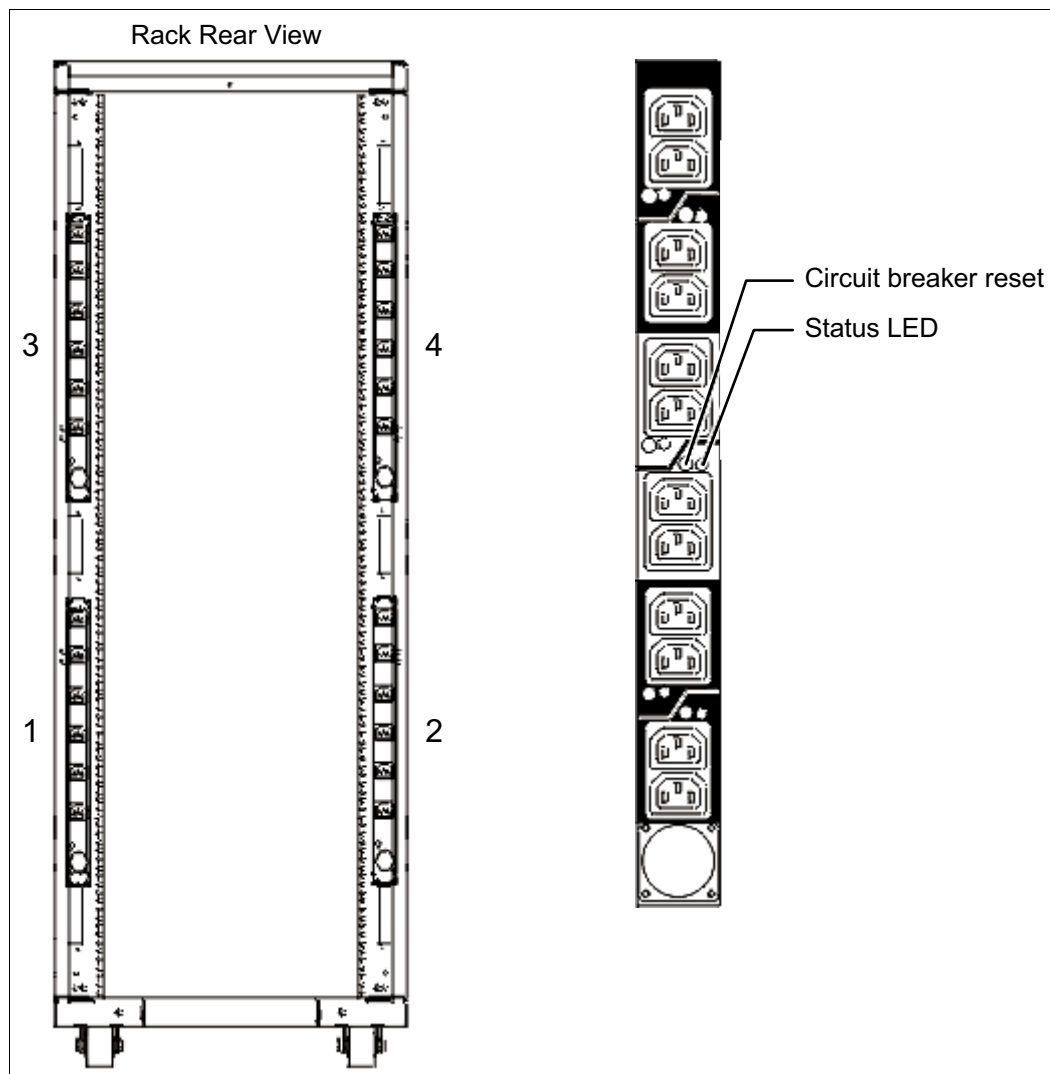

Figure 1-6 PDU placement and PDU view
- ▶ Up to four power distribution units (PDUs) can be mounted in the PDU bays (see Figure 1-6 on page 19), but others can fit inside the rack. For more information, see 1.10.7, "The AC power distribution unit and rack content" on page 19.
Four PDUs can be mounted vertically in the back of the T00 and T42 racks. Figure 1-6 shows the placement of the four vertically mounted PDUs. In the rear of the rack, two additional PDUs can be installed horizontally in the T00 rack and three in the T42 rack. The four vertical mounting locations are filled first in the T00 and T42 racks. Mounting PDUs horizontally consumes 1U per PDU and reduces the space that is available for other racked components. When mounting PDUs horizontally, the preferred approach is to use fillers in the EIA units that are occupied by these PDUs to facilitate proper air-flow and ventilation in the rack.